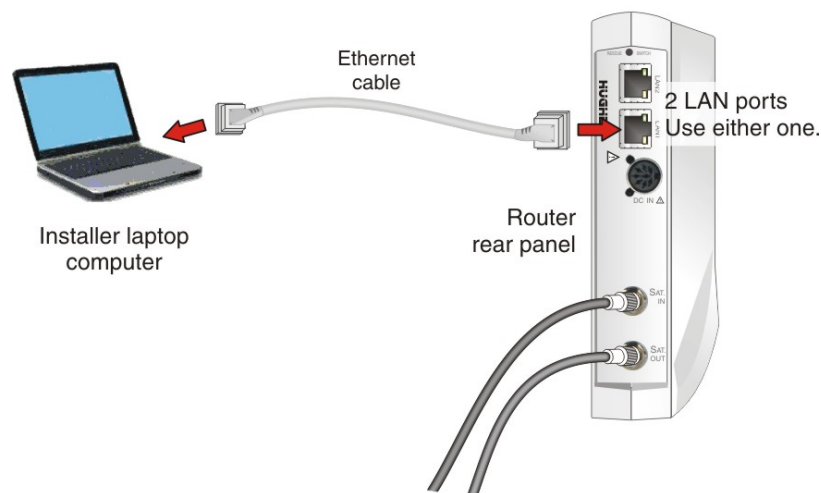

Figure 6: Connecting the installer laptop computer to the router
1. Use an Ethernet cable to connect your laptop computer *directly* to either of the router's two LAN ports, as shown in *Figure 6: Connecting the installer laptop computer to the router* on page 18.